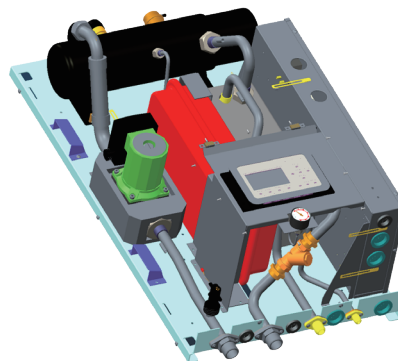

Fig. 2
<p>1) Remove the cover,front side plate and right side plate.</p> <ul style="list-style-type: none"><li>Loosen the two tapping screws, and remove the cover, the front side plate and right side plate.[ Fig. 2]</li></ul>
<p>Fig. 2</p>
1) Front panel assy [ Fig. 2]